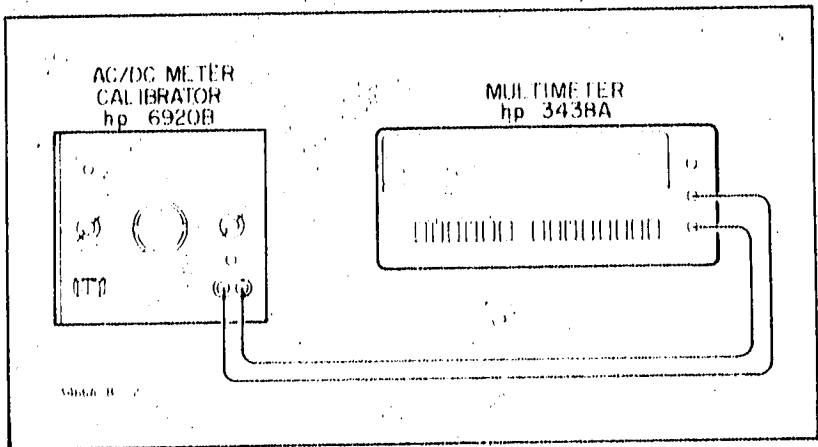

Figure 4-5. AC Ammeter Accuracy Test (200 mA and 2000 mA Ranges).
b. To check the 200 mA and 2000 mA ranges, it will be necessary to use an ac current source. Connect the ac current source to the Multimeter as shown in Figure 4-5.